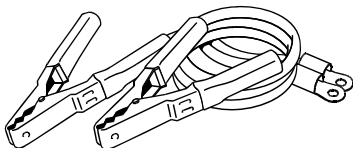

Figure 4 Cable for Direct Connection to 12 V Battery
- Cable clamps to connect the Inverter directly to a dedicated 12 V battery. See Figure 4.